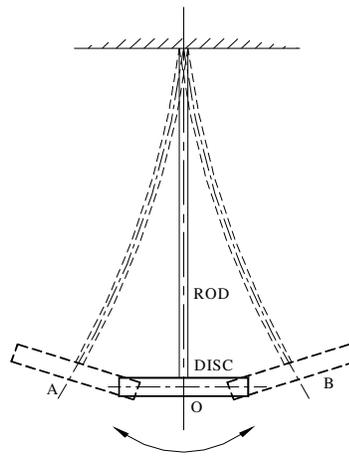

FIGURE 5
*Transverse vibrations:* When the rod is displaced in the transverse direction by an external force and released as shown in the figure 5, all the particles of rod and disc move approximately perpendicular to the axis of the rod. The shaft is straight and bends alternately inducing bending stresses in the rod. The vibration occurs is known as *transverse vibrations*.